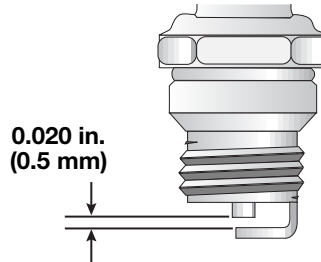

Fig. 31
3. Replace a cracked, fouled or dirty spark plug. Set the air gap at **0.020 in. (0.5 mm)** using a feeler gauge (Fig. 31).